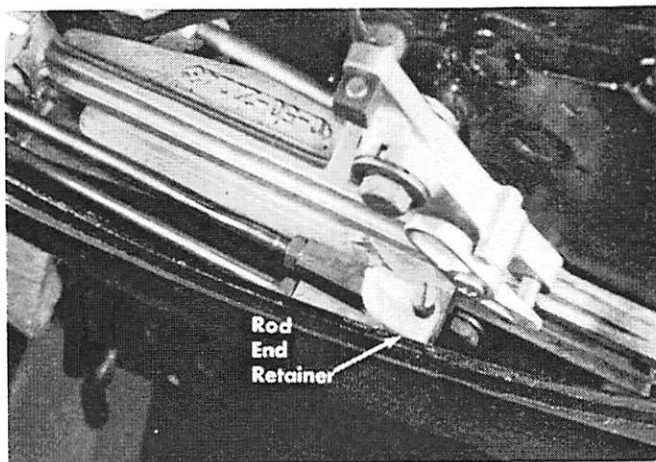

Figure 6. Shift Link Rod Installed
7. Position rod end retainer over link rod end. (Figure 6)